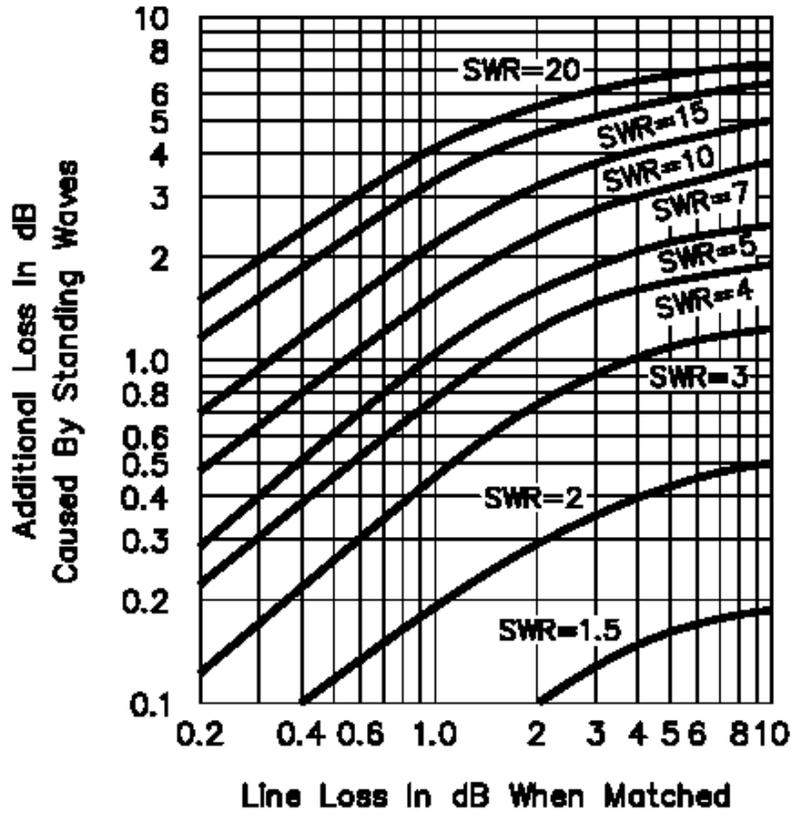

Figure 29: Additional Transmission Line Loss Due to High SWR
C. Tuner Located at the Rig – The high SWR at most frequencies can cause significant losses in the transmission line if it is not extremely low loss. Figure 29 shows the additional loss in dB due to high SWR on a transmission line. For example, given that RG-8U has a loss of 0.55 dB/100 ft., then a SWR of 20 at the load would add an additional 2.5 dB/100 ft. for a total of 3.05 dB or one-half power.